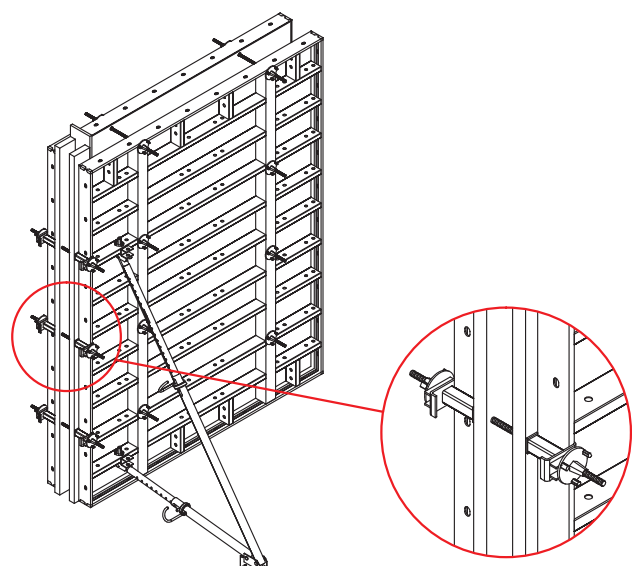

Fig. 3.19
- by using the edge catches, straight bowstrings, nuts and plywood, and timber (fig. 3.19);